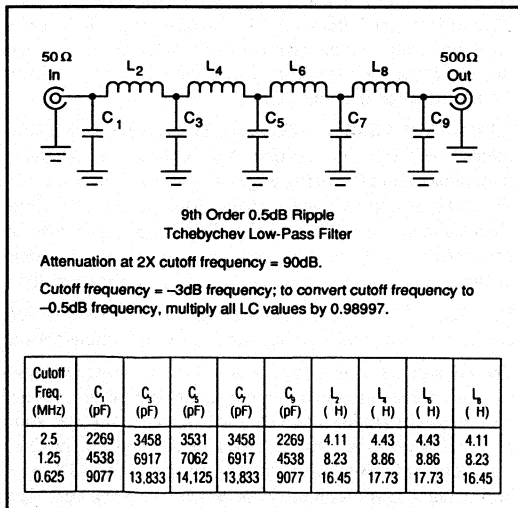

FIGURE 4. Ninth-Order Harmonic Filter.
3. Low-pass filtering (or bandpass filtering) of test signal generators is absolutely necessary for accurate tests. An easily built LC low-pass filter (Figure 4) will eliminate harmonics from the test signal generator.